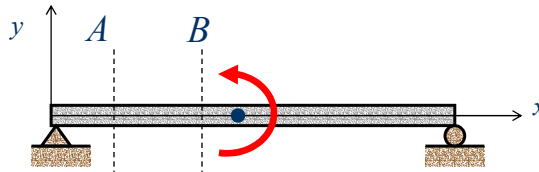

Figure 3
- Consider the beam shown in Fig. 3 that is subjected to the couple shown.